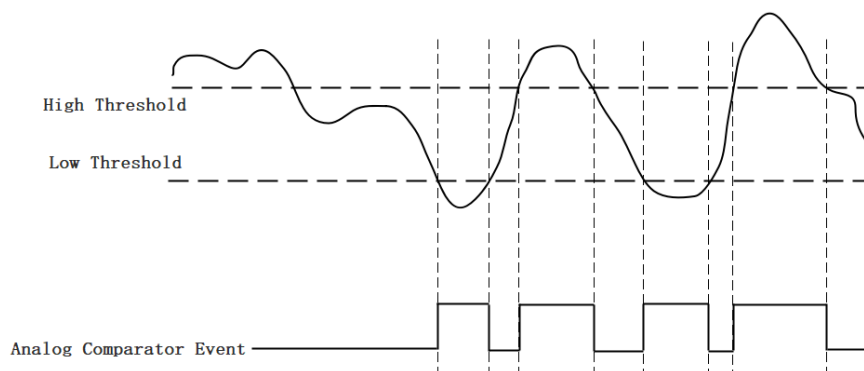

Figure 48 Leaving Window Trigger
**Leaving Window Trigger:** The window comparator output is high when the signal leaves the window defined by the *Low Threshold* and *High Threshold*. The output will change to low when the signal enters the window as shown in Figure 48.